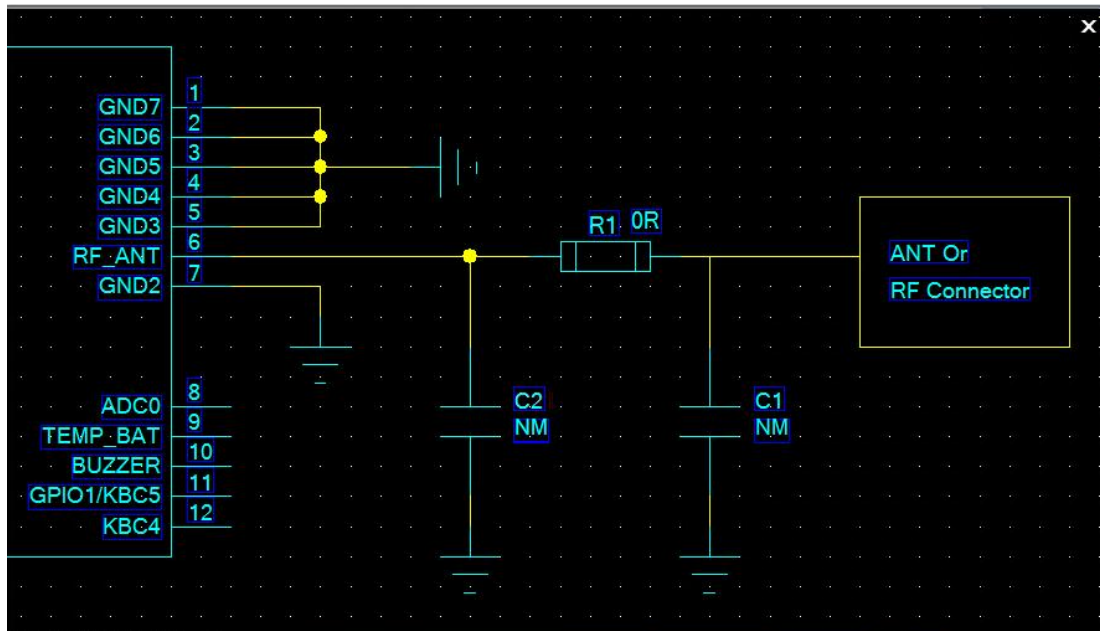
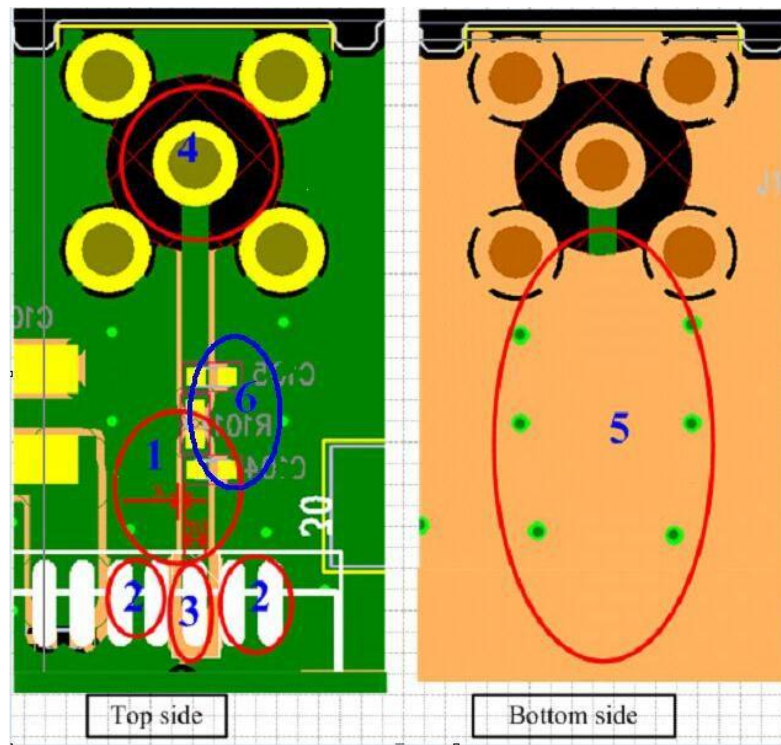

Figure 1: Reference Schematic Diagram of the RF Module
Figure 6: PCB LAYOUT Instance Diagram
| 2.2 | 2022-04-10 | Fagan Xu | Update Figure 6 (PCB LAYOUT Instance Diagram) |
| Figure 1: Reference Schematic Diagram of the RF Module..... | 6 |
| Figure 6: PCB LAYOUT Instance Diagram..... | 9 |
- 1) Strictly control the Microstrip Linewidth (W) and Ground Clearance (S) corresponding to 50-ohm coplanar waveguide. For example, with the common PCB plates as FR4 media (dielectric constant 4.2) and copper coating thickness 35 μ m, the Microstrip Linewidth (W) and Ground Clearance (S) corresponding to the different signal layers are shown in Table 1. It is particularly reminded that PCB factories need to control Microstrip Linewidth (W) and Ground Clearance (S) accuracy.
- 4) When connecting the components package, it should be noted that the signal pin should be kept at a certain distance from the ground. Refer to Figure 6. Please do not lay copper at the bottom of the signal pad.
- 6) The π type matching circuit is normally constituted of 3 components (as shown in Figure 1). When designing, the pad should be placed close to the antenna (as shown in the above figure 6). If the space between the antenna connector (SMA) and the RF pin of the module is not enough (impossible to place the three components of the π matching circuit), it can be changed to an L-shaped matching circuit.